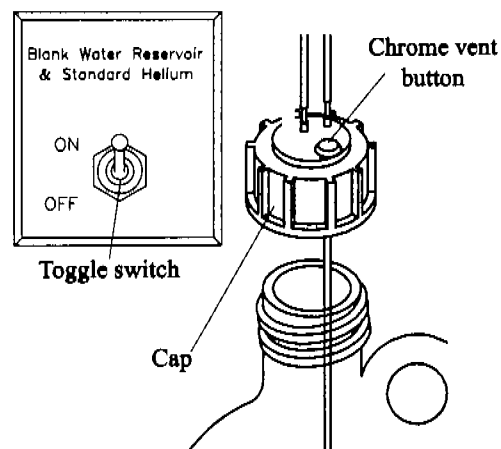

Figure 3.1. Reservoir bottle and toggle switch
The supplied 80-oz (2-L), plastic-coated reservoir bottle and lines provide blank, wash, and dilution water (Figure 3.1).
6. Verify the helium is turned on at the source. Turn on the toggle switch located inside the cabinet on the right back wall (Figure 3.1).